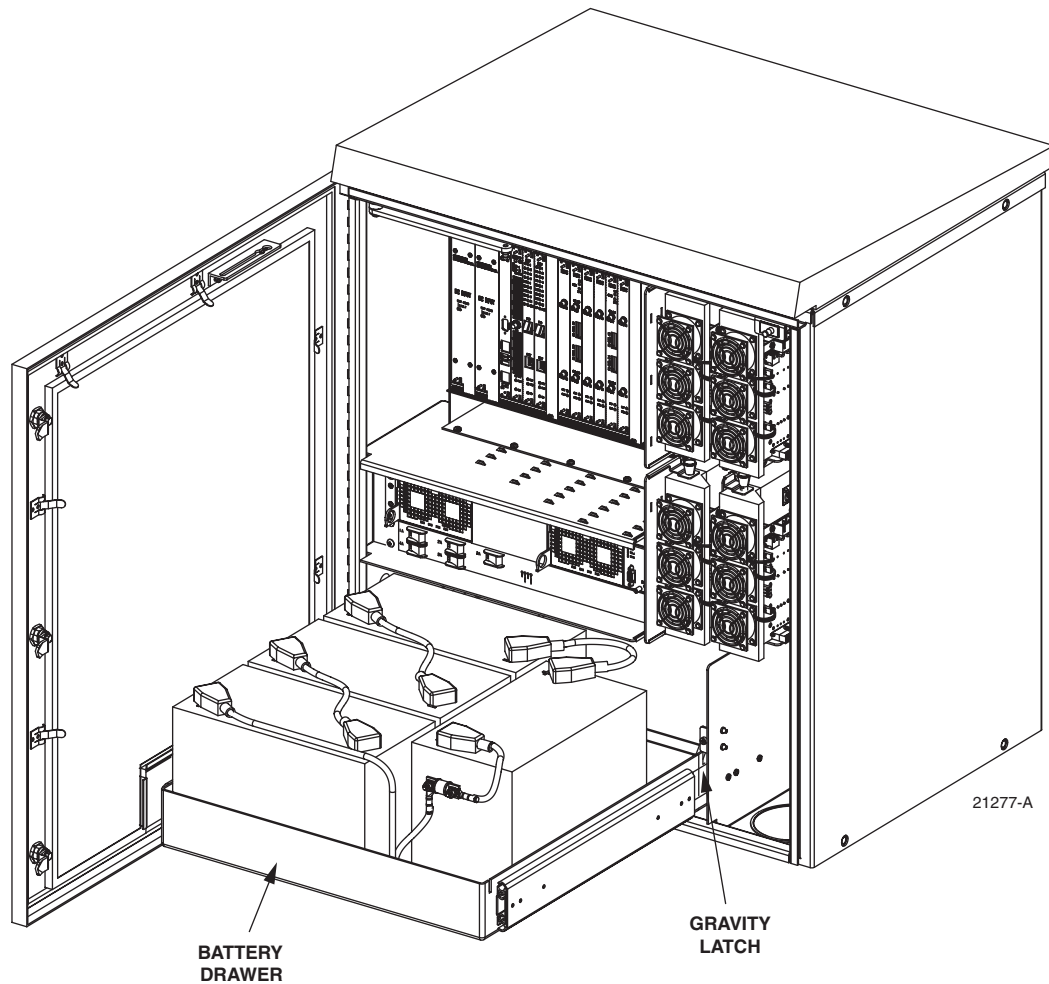

Figure 35. Open Battery Drawer
3. Move the gravity latch in the battery drawer to the up position. Refer to Figure 35.